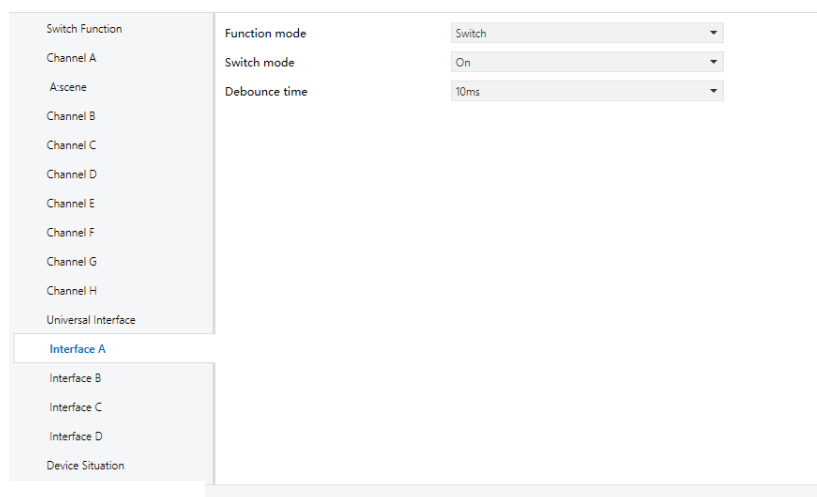

Figure 6.2.2
2) After the setting is completed, there will be Interface A-D four dry contact interfaces on the right. Click each dry contact interface to set its parameters. The following uses Universal Interface A as an example, as shown in Figure 6.2.2